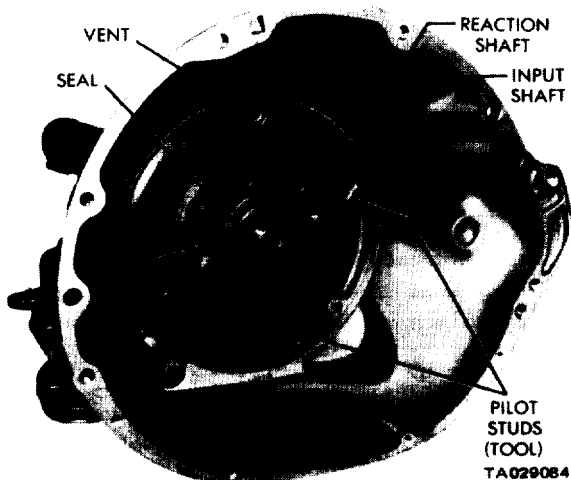

Figure 18-33. Installing Pump and Reaction Shaft Support Assembly.
(1) Screw two pilot studs into the pump opening in the case (figure 18-33). Install a new gasket over the pilot studs.